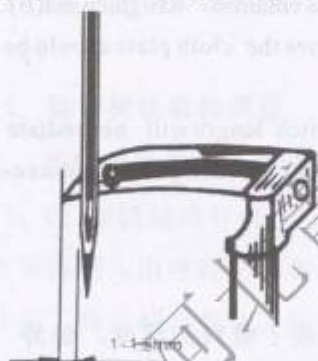

图7 Fig.7
卸下针板，将皮带轮按工作方向转动，使弯针运行至左边，当弯针尖超出机针直径1~1.5毫米(0.040至0.060英寸)时，机针的针眼上缘须和弯针的底边齐平(图7所示)。调整机杆高度的，拧松针杆连轴节螺钉(图3, B)，上下移动针杆至适合位置后再拧紧螺钉(B)，并重新装上针板。
Remove the needle plate. Rotate the machine pulley in operating direction until the looper moving to the left. When the looper point projects 1-1.5mm(.040 to .060in.) left of the needle, lower edge of looper and upper edge of needle eye must be flush in this position (Fig. 7) For adjustment, loosen clamp screw (B, Fig. 3) in the needle bar up or down as required. Retighten screw (B) and remount needle plate.